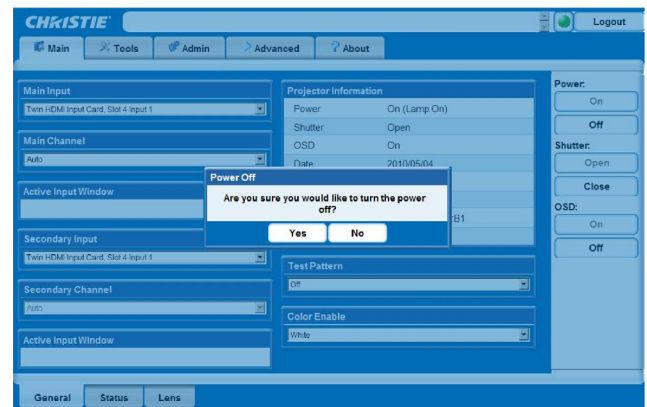

FIGURE 2-37 POWERING DOWN/WEB USER INTERFACE
- From the **Main** Tab, Select **Power>OFF**. **NOTE:** A window will display for confirmation on powering down, see Figure 2-37.